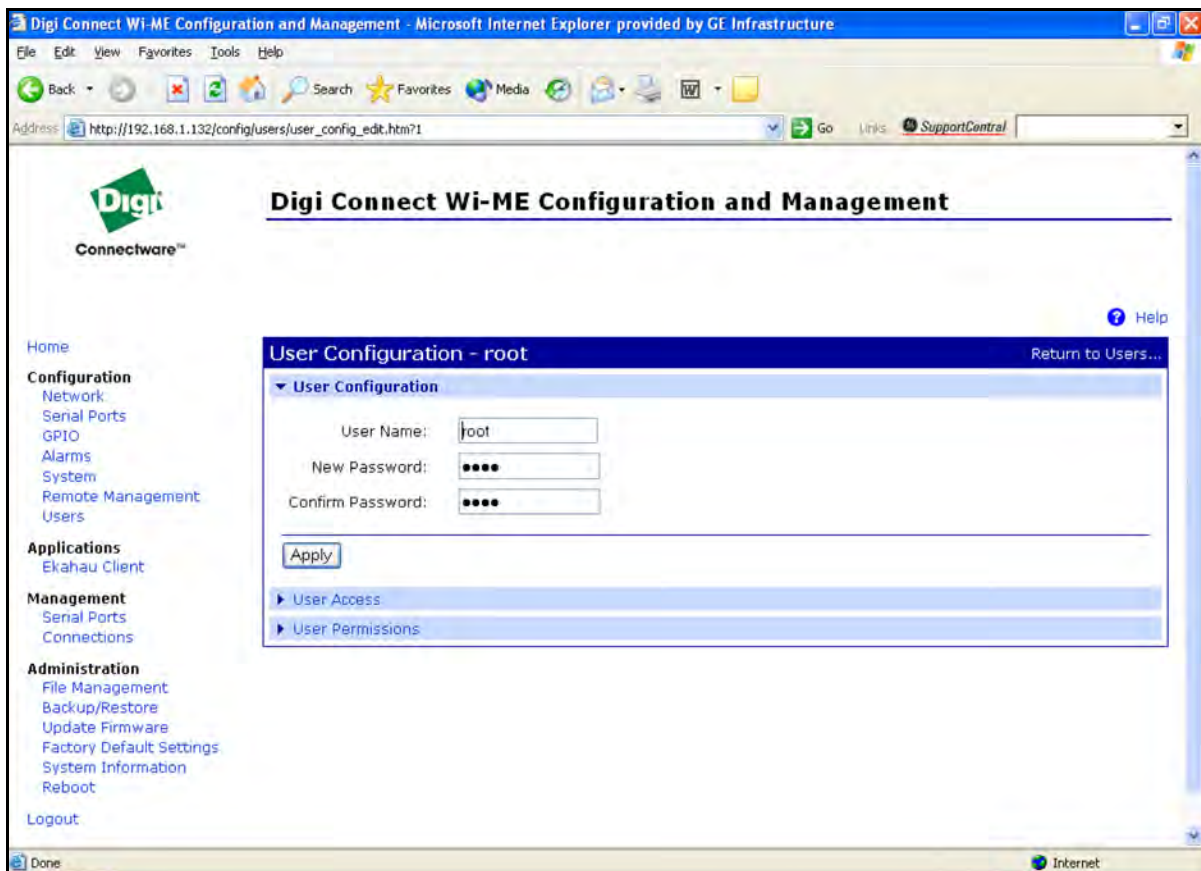

Figure 45: Changing the User Name and/or Password
5. Click on **New...** Figure 45 on page 63 appears.